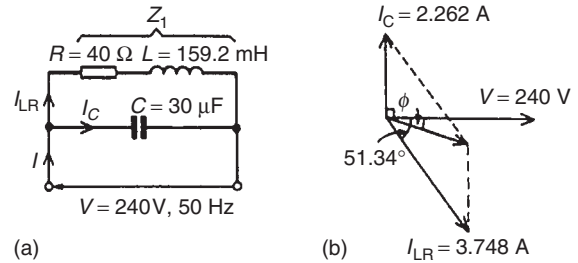

Figure 16.6
The circuit diagram is shown in Fig. 16.6(a).
$$\begin{aligned} \phi_1 &= \tan^{-1} \frac{X_L}{R} = \tan^{-1} \frac{50}{40} \\ &= \tan^{-1} 1.25 = 51.34^\circ \text{ lagging} \\ &\text{(see phasor diagram in Fig. 16.6(b))} \end{aligned}$$
(see phasor diagram of Fig. 16.6(b)).
- (c) The supply current I is the phasor sum of I_{LR} and I_C . This may be obtained by drawing the phasor diagram to scale and measuring the current I and its phase angle relative to V . (Current I will always be the diagonal of the parallelogram formed as in Fig. 16.6(b)).